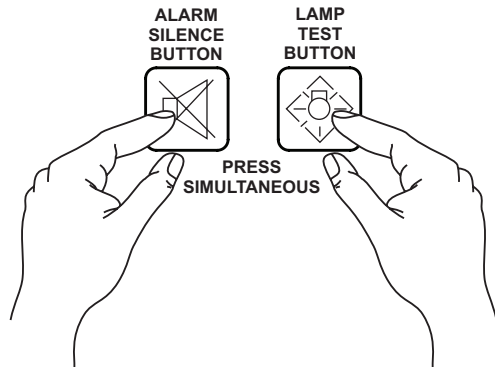

Figure 90. Alarm Silence And Lamp Test Buttons
1. Press and hold the **Alarm Silence** and **Lamp Test** buttons (Figure 90) at the same time for 10 seconds.